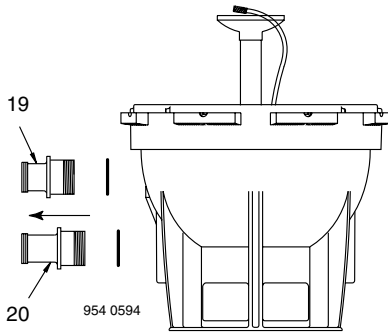

Figure 5
3. Remove union adapters and tank fittings, (Key Nos. 19 and 20, Figure 5). Turn Key Nos. 19 and 20 counterclockwise to remove.